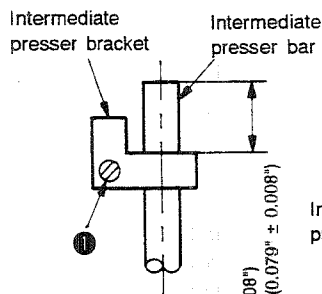
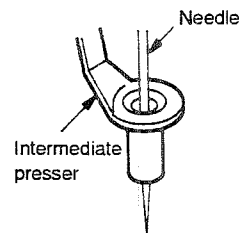

Fig. 5-20-2
Fig. 5-20-3
- o The intermediate presser bar projects $19 (0.748") \pm 0.2 \text{ mm } (0.008")$ ($2 \pm 0.2 \text{ mm } (0.079" \pm 0.008")$ for the G type) from the top of the intermediate presser bracket. (Fig. 5-20-2)
- o The needle should enter the center of the hole in the intermediate presser. (Fig. 5-20-3)
- o The air flow adjustment of speed controller (B) mounted on the intermediate presser cylinder has been appropriately made. (Refer to the "STANDARD ADJUSTMENTS (41)")
- o The operating air pressure has been adjusted to 5 to 5.5 kg/cm² using the air regulator. (Refer to the "STANDARD ADJUSTMENTS (41).")
- o Loosen setscrew ①, and adjust so that the intermediate presser bar projects $19 (0.748") \pm 0.2 \text{ mm } (0.008")$ ($2 \pm 0.2 \text{ mm } (0.079" \pm 0.008")$ for G type) from the top end of the intermediate presser bracket (Fig. 5-20-2), and the needle enters the center of the hole of the intermediate presser. After making the adjustment, securely tighten setscrew ①. (Fig. 5-20-3)